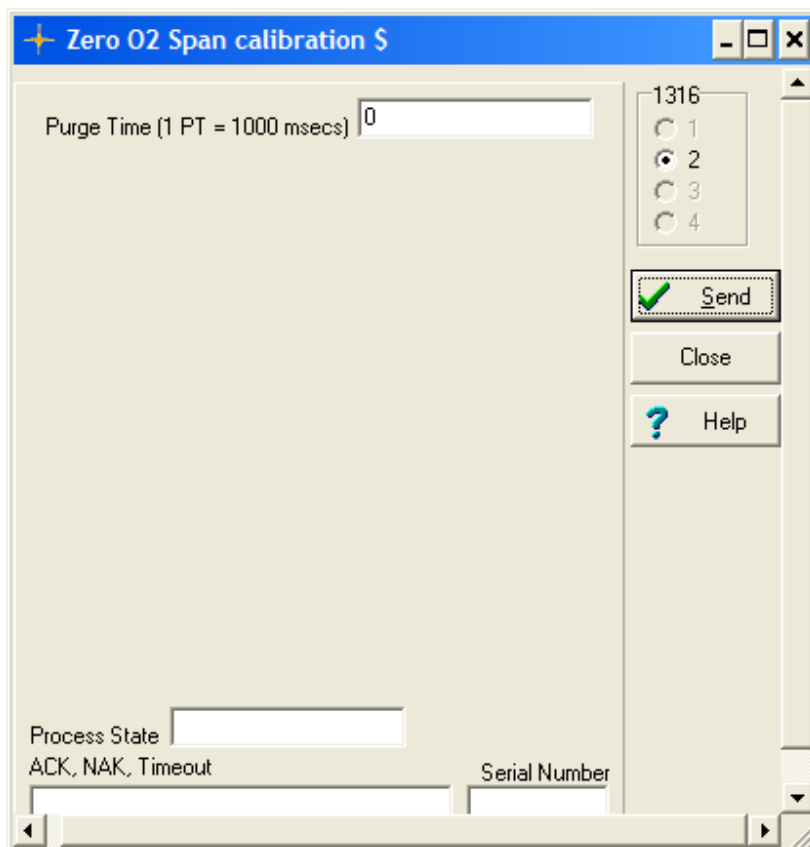

Figure 4.2. The Zero O2 span calibration window to select Purge time during a calibration.
The CO2, Freon and NO channels are zero calibrated and the O2 channel is span calibrated. Using the selected Purge Time (PT) (see figure 4.2 ).